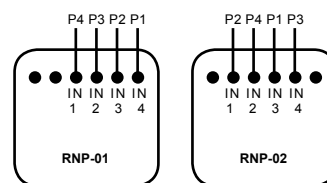

Fig. 1
1. Fig. 1 shows the buttons' numbers on the transmitters RNP-01/RNP-02 – the programming is the same as for P-257/4 and RNK-04